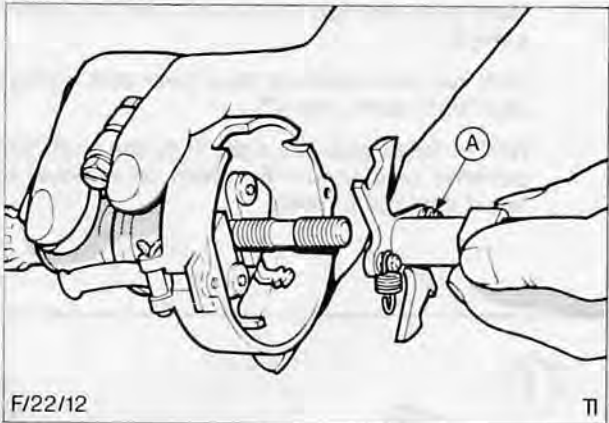

Fig. 46. Replacing cam spindle
- 13. Coat upper shaft with No. 1 grade lithium based grease (Spec. ESF-M1C74-1) ensuring undercut is completely filled. Replace cam and plate assembly and secure in position with circlip, position circlip tangs at 90° to rotor arm slot, Fig. 46.